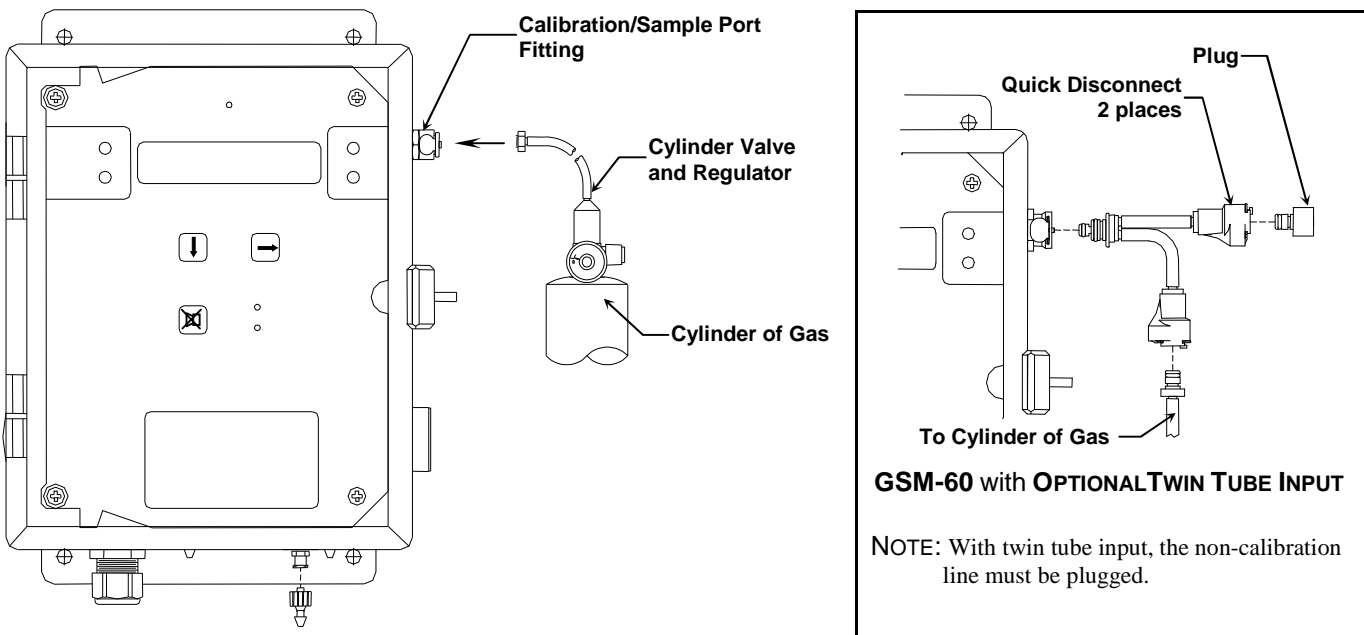

Figure 7: GSM-60 Calibration Connections
- Press the **SELECT** switch, the gas & current reading are displayed in upper portion of display. The mV reading & "LowCal 0" is displayed in the lower portion of display. This is the LowCal setting, *usually zero*, clean air must be supplied to the sensor. This reading needs to be at or near zero. If it is not then a cylinder of clean 20.9 air should be used. See Figure 7 if this is required.
- Apply calibration gas to sensor. See **Figure 7**. After about 1 minute and mV reading has stabilized.